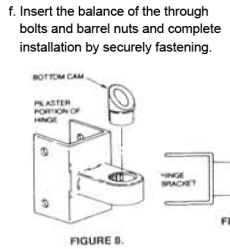

FIGURE 8.
- Insert bottom nylon cam into the pilaster portion of the hinge bracket assembly. (see fig. 8) The cam should set to same desired position on upper and lower hinge assemblies. (see fig 9)